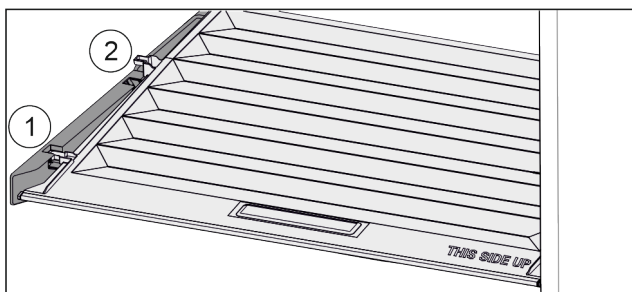

Fig. 117
- Pull the lid up at the front in the retaining parts to the opening Fig. 117 (1).
- Lift from the back and pull it up and out Fig. 117 (2).